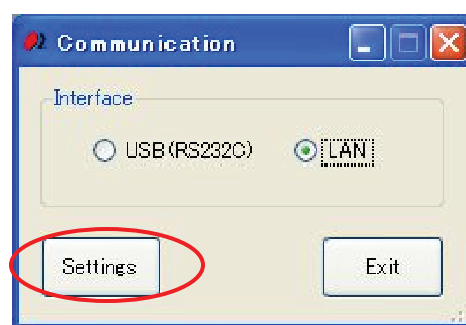
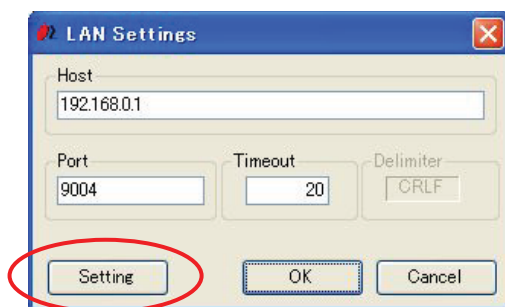
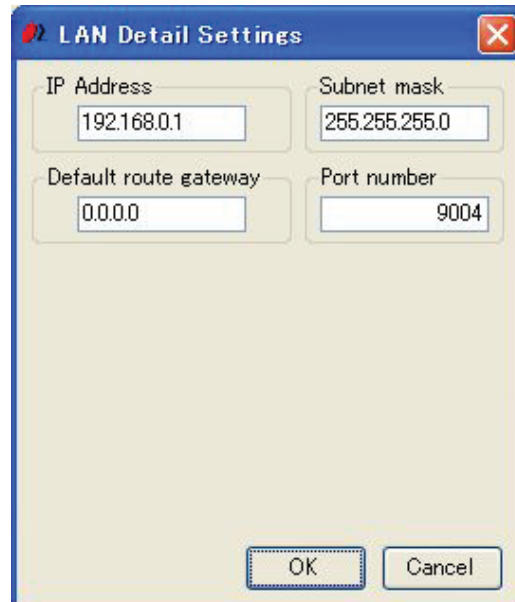

Fig.3-2 Communication setting screen
Fig.3-3 : Communication settings
Fig.3-4 : LAN settings
(Fig.3-2)
4. Please open communication setting screen (Fig.3-3) from Fig.3-2“Communication”.
5. LAN settings (Figure 3-4) will pop up by clicking "Settings" on Communication settings (Figure 3-3).
6. Click OK after setting IP address on Figure 3-4 LAN settings in accordance with PC condition.